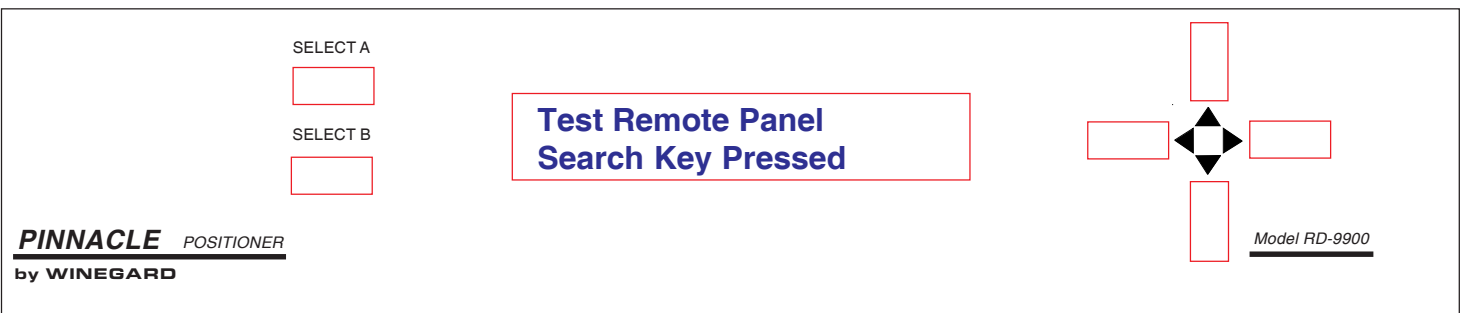

Figure 19
12. Press **[SEARCH] button** twice. **Search Key Pressed** will be displayed on positioner. See Figure 19.